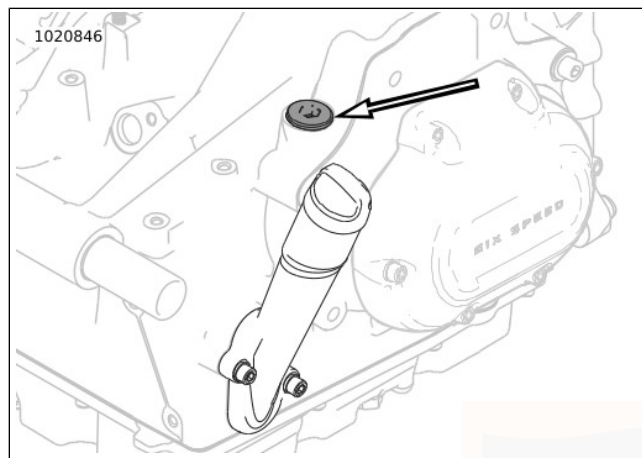

Figure 56. Transmission Filler Plug/Dipstick Location
3. See Figure 56. Remove transmission filler plug/dipstick. Wipe dipstick clean.
1. See Figure 56. Remove transmission filler plug/dipstick.